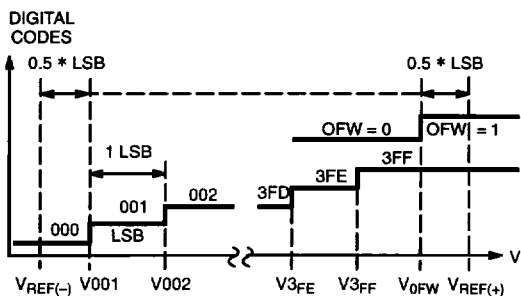
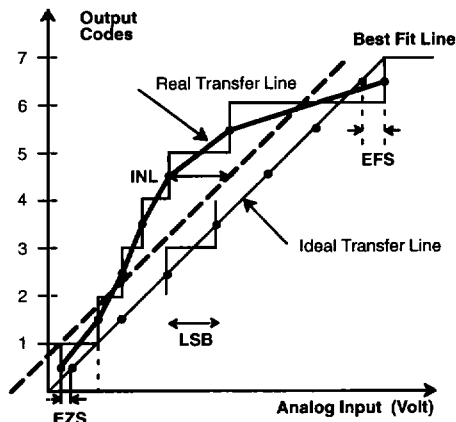

Figure 4. Ideal A/D Transfer Function
Figure 7. INL Error Calculation (Exaggerated for Visualization)
- 2 Tester measures code transition voltages by dithering the voltage of the analog input (V_{IN}). The difference between the measured code width and the ideal value (V_{REF}/1024) is the DNL error (see Figure 4). The INL error is the maximum distance (in LSBs) from the best fit line to any transition voltage (See Figure 7).
The transfer function for an ideal A/D converter is shown in Figure 4.
Figure 7. gives a visual definition of the INL error. The chart shows a 3 bit converter transfer curve with greatly exaggerated DNL errors to show the deviation of the real transfer curve from the ideal one.